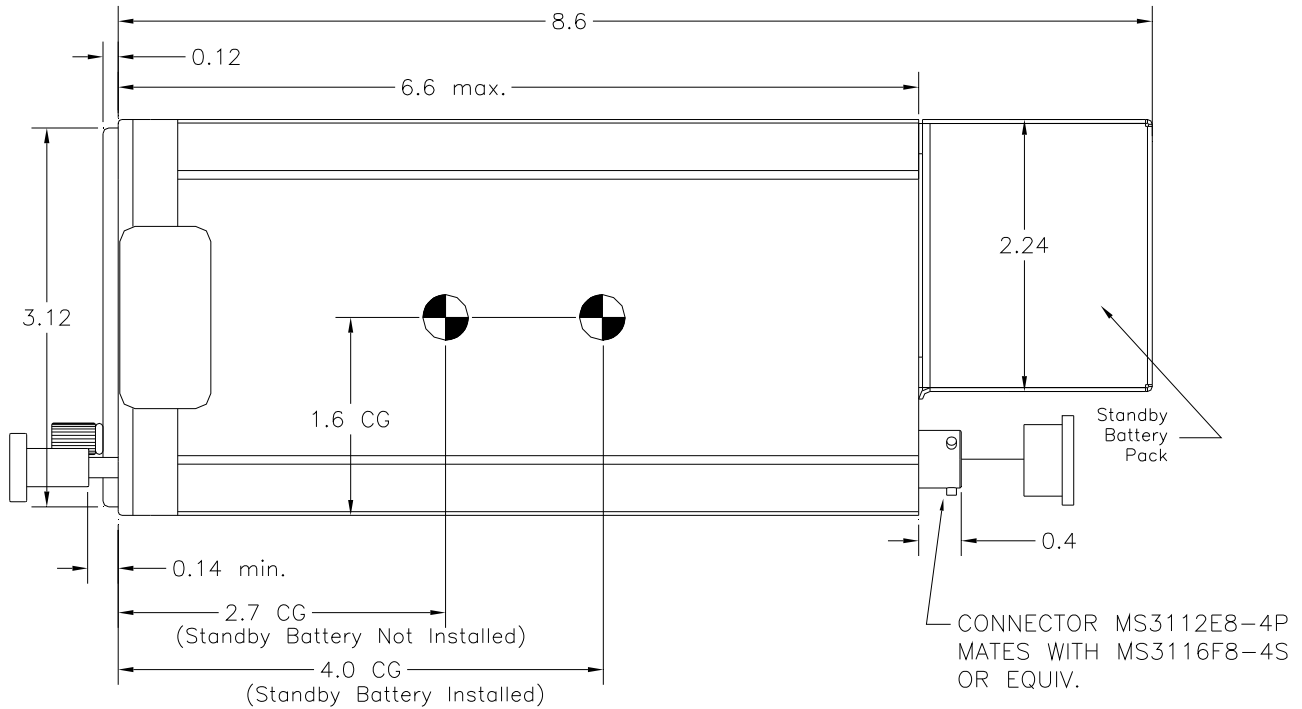

Figure 2.1
- A. Refer to Figure 2.1 for installation dimensions and electrical information.